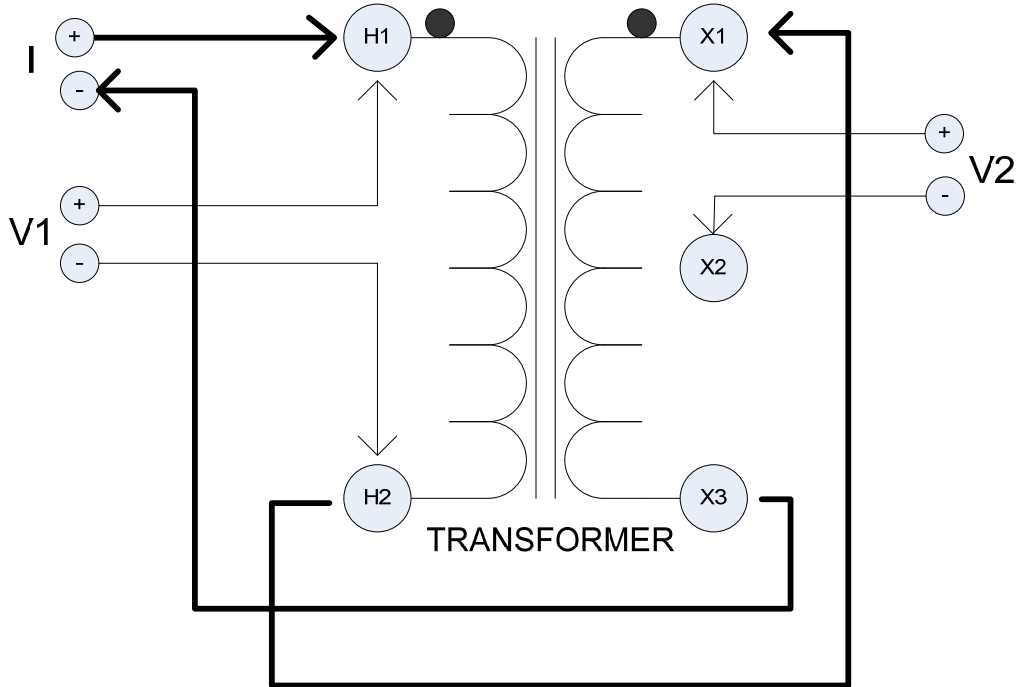

Figure 3: Dual-Winding Test
NOTES: It should be carefully noted that the jumper in Figure 3 be connected to opposite polarities of transformer to reduce transformer core saturation time.
- 4. Connect "V1" voltage leads input to H1 and H2 terminals of test transformer. See Figure 3.
- 5. Connect "V2" voltage leads input to X1 and X2 terminals of test transformer. See Figure 3.
Connect current leads (I) to test specimen winding. See Figure 3. Add the Jumper Cable from H2 to X1. This will allow current to flow from the primary winding to the secondary winding. **Voltage leads should always be placed inside (between) current leads and the transformer.** See Figure 3.